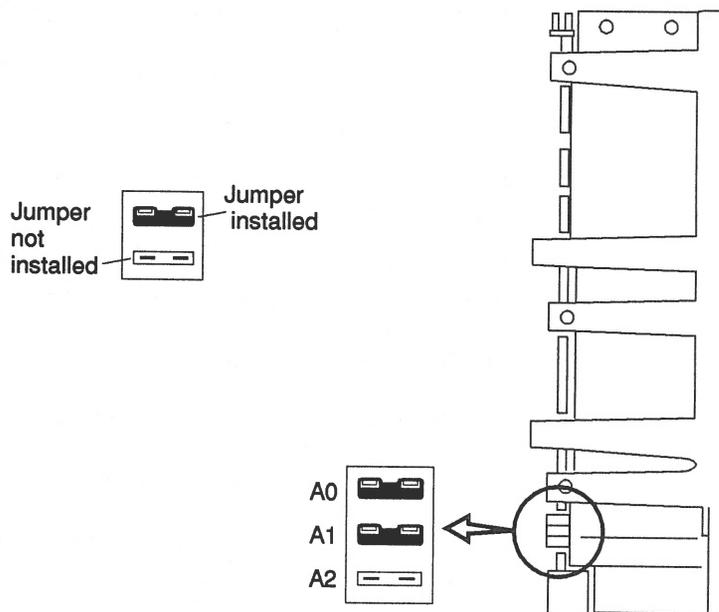

Figure 2-4 Drive Position 0 Jumper Settings
- a. If you are going to install a drive in position 0, compare the disk drive address jumper settings to the settings shown in Figure 2-4.**
If the device address jumper settings are the same as in Figure 2-4, leave them as they are.